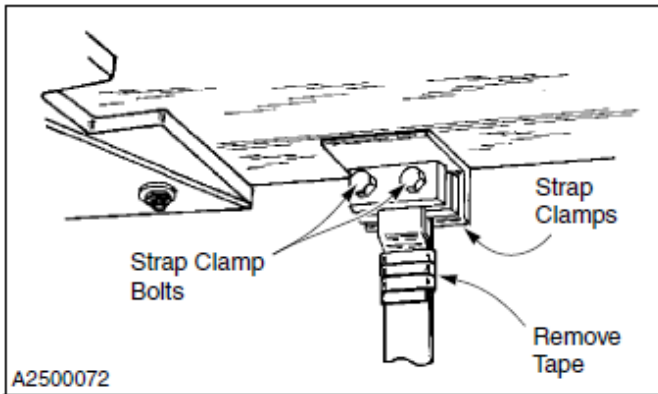

Figure 63
4. To adjust the rear windbar, loosen the rear strap clamp bolts and move the windbar up and down, as required, by moving the strap up or down through the clamps. Retighten the strap clamp bolts when the windbar is in the correct position. (See Figure 63)